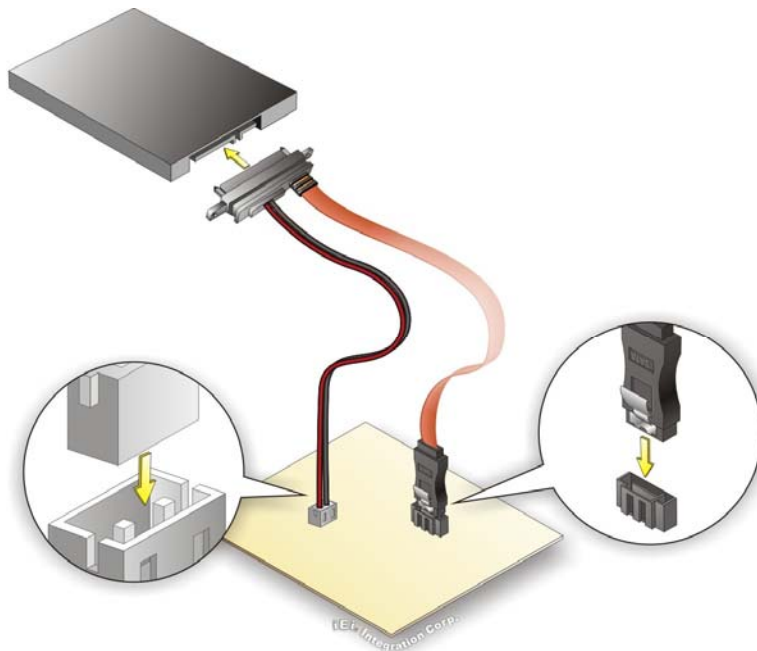

Figure 4-12: SATA Drive Cable Connection
- Step 2:** **Insert the cable connector**. Insert the cable connector into the on-board SATA drive connector and the SATA power connector. See **Figure 4-12**.
Step 3: Connect the cable to the SATA disk. Connect the connector on the other end of the cable to the connector at the back of the SATA drive. See **Figure 4-12**.